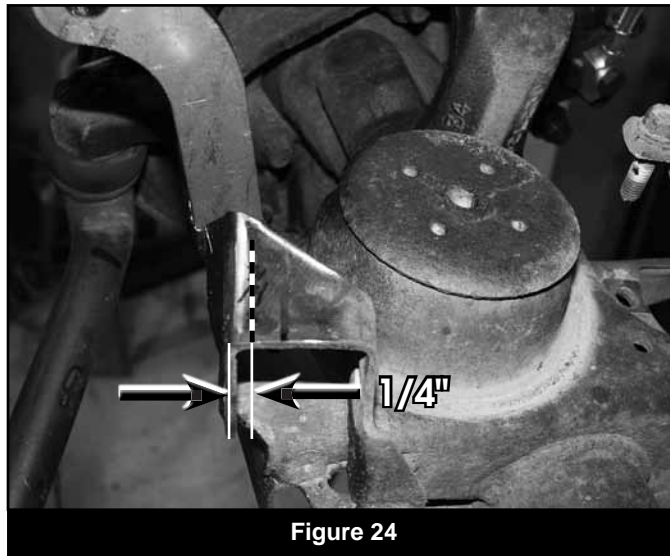

Figure 24
62. Locate the top of the original stabilizer mount on the passenger's side of the axle. Remove any rust, oil, etc. from the top of the stabilizer mount to promote good welds. Make a mark a 1/4" from the front edge on the top of the bracket (Fig 24). Make a line along the top of the bracket, parallel to the front face at the 1/4" marked distance. This will be a reference line for installing the new stabilizer mount/support gusset.